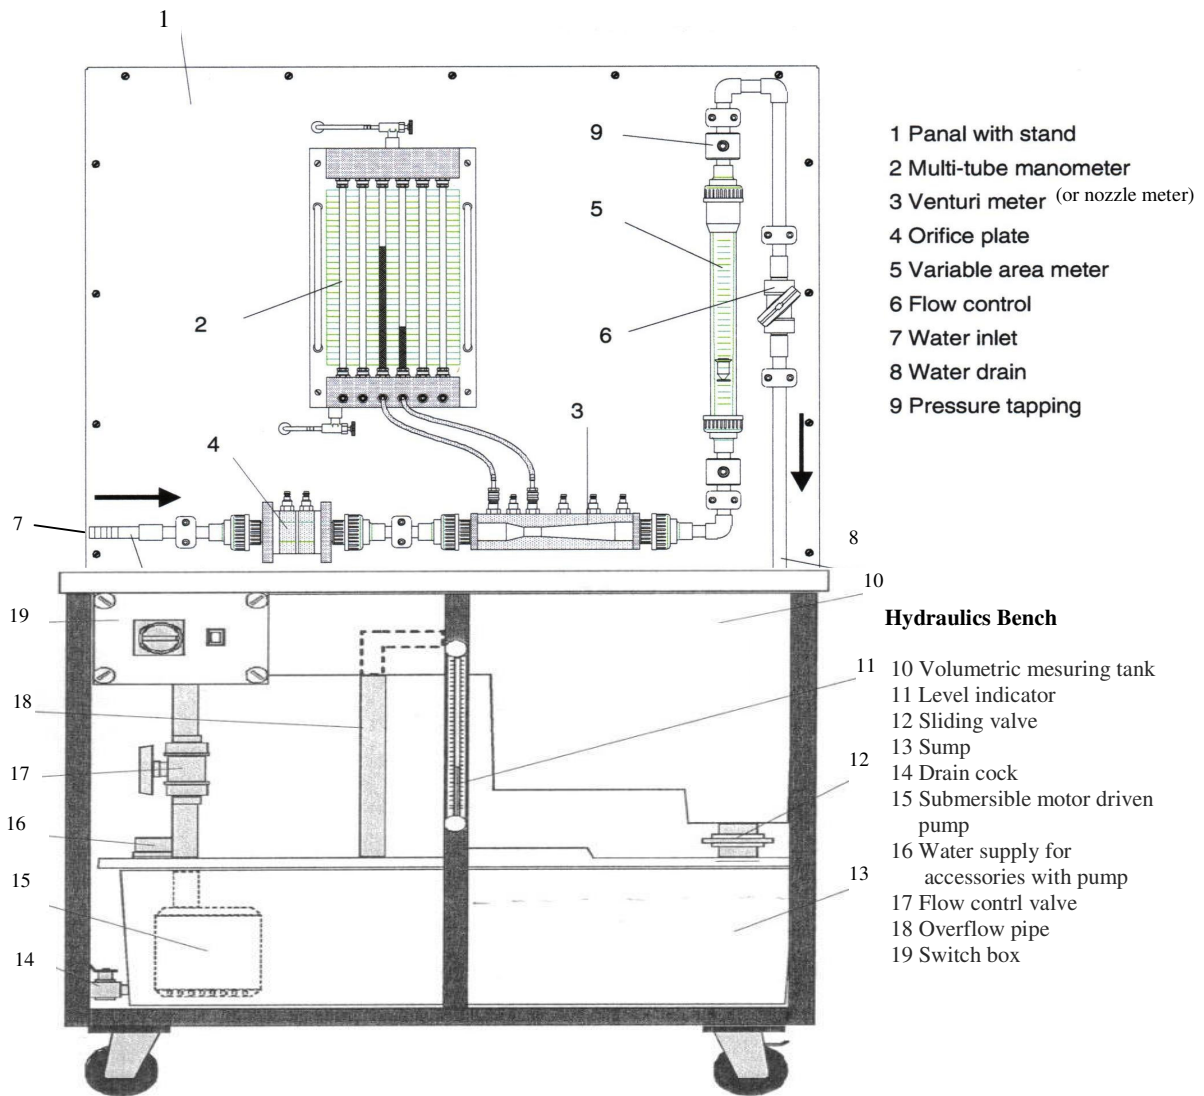

Fig. 1 Test section and hydraulics bench
The test section, located over a hydraulics bench (Fig. 1), consists of a Venturi meter (3), an orifice meter/ or nozzle meter (4), and a rotameter (5). A flow control valve (6) permits variation of the flow rate. Pressure tappings enable measurement of the head losses of each flow meter. The tappings are connected via hoses to a multi-tube manometer bank (2). The manometer panel incorporates a manifold with an air bleed valve. All components of the flowmeter demonstration unit are assembled on a panel (1) with stand. The unit is suited on the top of the hydraulic bench in order to make use of water supply and volumetric measurement facilities of the bench. The hydraulics bench unit provides the basic services for the pumping and volumetric measurement of the water supply in a certain period of time. A calibrated level indicator (11) allows measuring the amount of water circulated through the meters in the period.